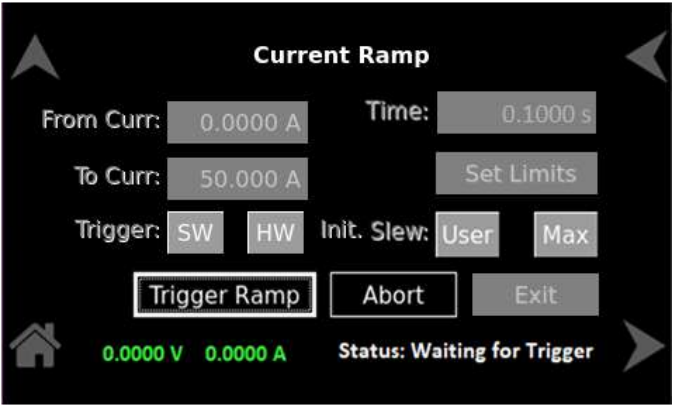

Figure 8-74. Trigger Ramp
**Trigger Ramp**      Used to send software trigger to the unit to start the ramp execution. Post initialization of ramp this function is enabled only when 'Trigger' selection is 'SW'. Refer to Figure 8-74.